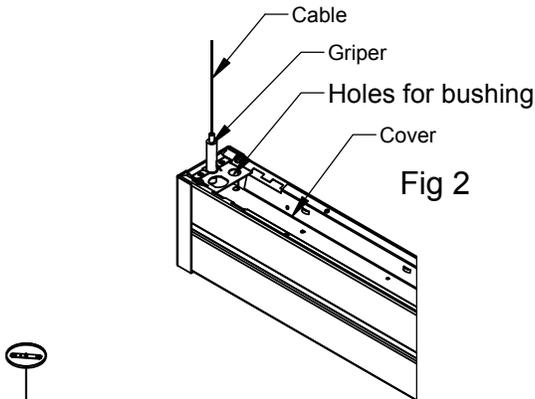

Fig 2
Step 3. For Stand alone fixture, remove lenses, push the aircraft cable through the griper (see Fig 2), adjust the cables to make the fixture level, tighten the griper. Usualy power cord is not connected the fixture, unscrew and move cover aside, and connect wires to power cord, (cut cord shorter if needed). Wrap the bushing around the power cord and push the bushing into the holes on the plate and /or canopy. Put back the cover and screw it